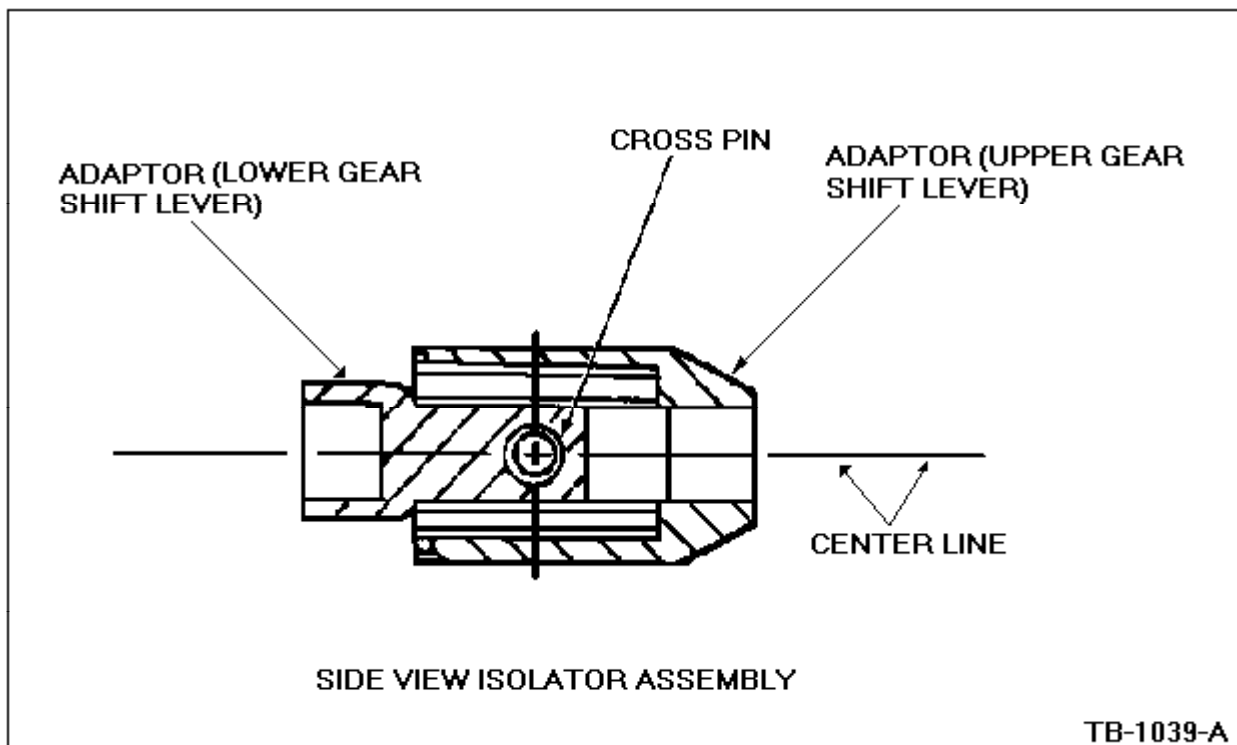

Figure 3 - Article 89-5-18
4. Scribe a location line along the isolator assembly center line and through the cross pin center, Figure 3.